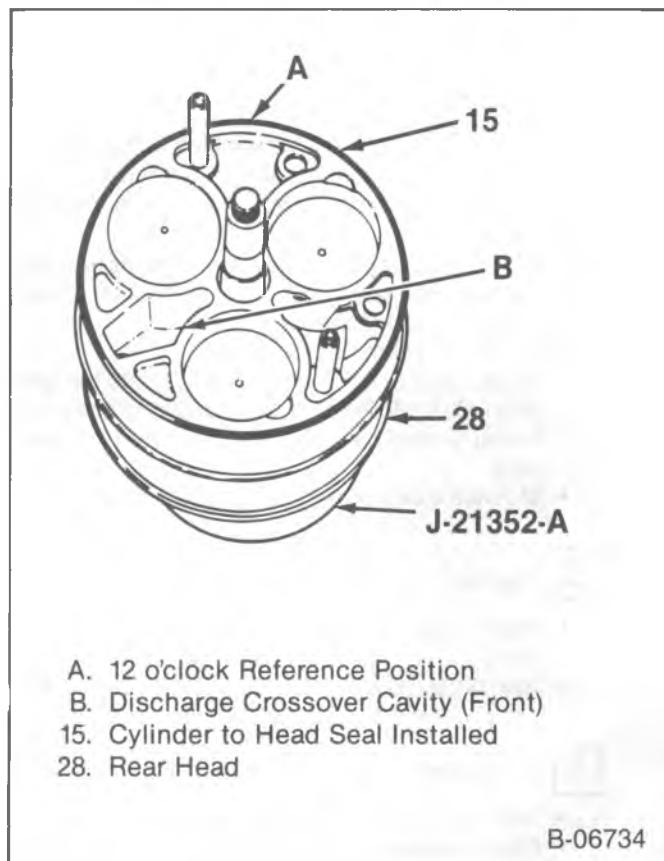
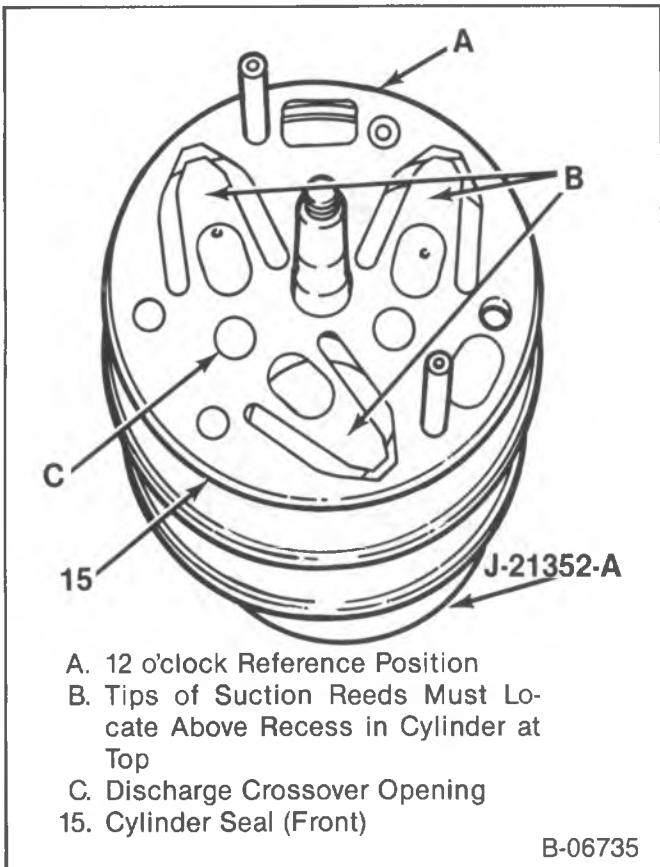
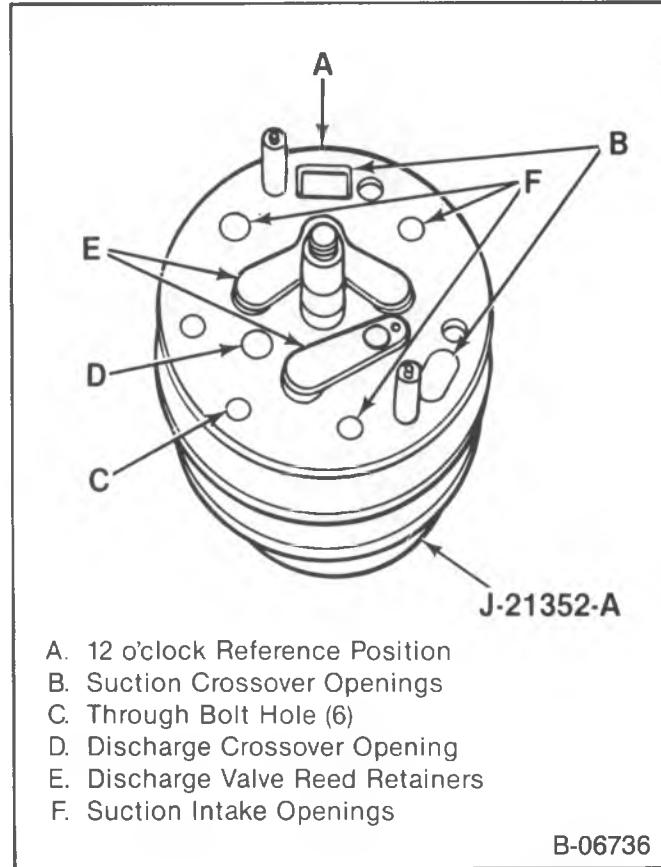

Figure 35 — Installing the Front Head
Figure 36 — Installing the Front Suction Reed Plate
Figure 37 — Installing the Front Valve Plate
- Assemble cylinder and shaft assembly over the guide pins onto the rear head (28) (figure 35).
- Using both hands, press the cylinder and shaft assembly down into the rear head (28).
- Center cylinder seal (22) is not serviceable.
7. Cylinder seal (15).
- Lubricate a new cylinder to front head seal with clean 525 viscosity refrigerant oil and install in the front seal groove (figure 35).
8. Suction reed plate (14).
- Over J 33016 guide pins (figure 36).
9. Valve plate (13).
- Over J 33016 guide pins (figure 37).
10. Head gasket (12).